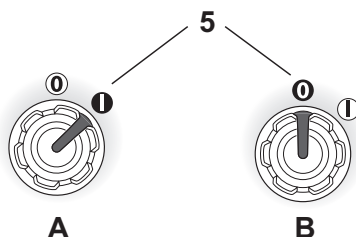

Fig. 20
- > Set the on/off switch (5) in its "1" position to start the product (Fig. 20, A).
- > Set the on/off switch (5) in its "0" position to switch off the product (Fig. 20, B).